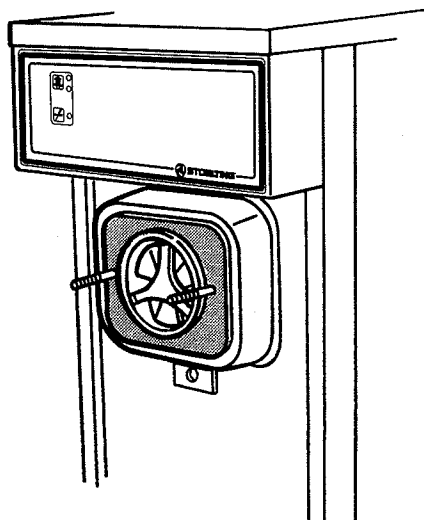

Figure 47. Auger Support Installation
- M. Place auger support and bushing on front of auger. Align auger support for fit into front door. (See Fig. 47.)